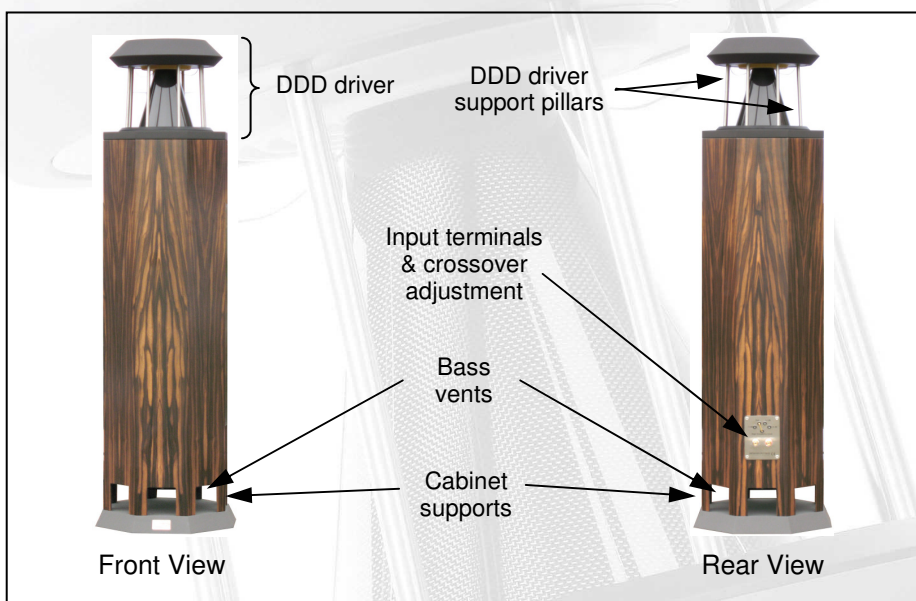

Figure 4. The Principle Features of the HRS 120
Do not lift them by the DDD driver support pillars or by the cabinet supports (figure 4) as this may damage the driver.
3. Lift the loudspeakers off the carton lower tray by holding them around the cabinet. Do not lift them by the DDD driver support pillars or the cabinet supports – figure 4.